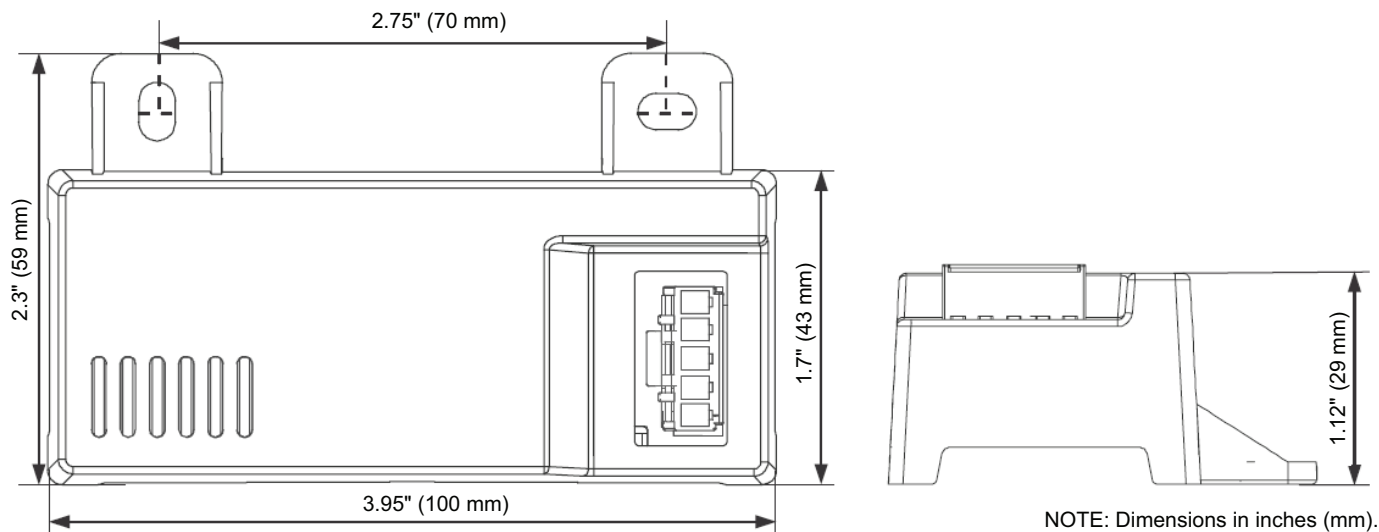
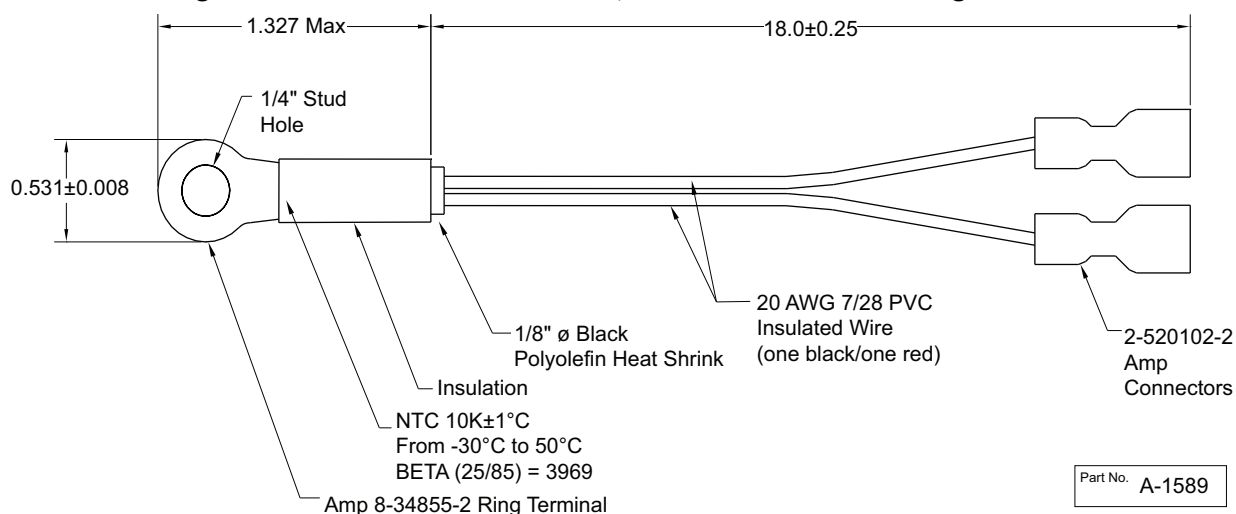
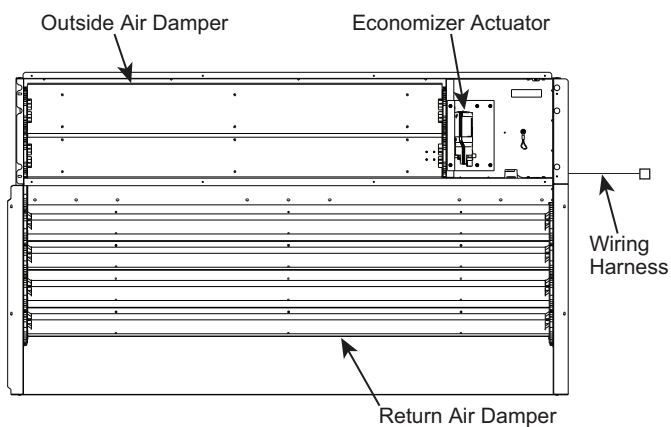

Fig. 72 – HH57LW001 Dimensional, Connection and Switching Information
Fig. 73 – HH79NZ039 Dry Bulb and Mixed Air Sensor Wiring
Fig. 74 – EconomizerONE System Component Locations
When using the HH57LW001 enthalpy sensor (see Fig. 72) for outside air changeover, the existing HH79NZ039 dry bulb sensor (see Fig. 73) must be removed. The enthalpy sensor will be mounted in the same location as the dry bulb sensor (see Fig. 74). When the enthalpy sensor's OA (Outside Air) temperature, enthalpy, and dew point are below their respective set points, outside air can be used for free cooling. When any of these are above their set point, free cooling will not be available. Enthalpy set points are configurable and create an enthalpy boundary according to the user's input. For additional details, see Fig. 75-76 and Table 33.
The optional enthalpy control sensor (P/N: HH57LW001) communicates with the POL224 economizer controller using the 5-wire harness, 48TC005213. The HH57LW001 sensor can be used as a single outside air enthalpy, a differential return enthalpy, or a differential return temperature sensor. Refer to the base unit control wiring diagrams found earlier in this book to wire the HH57LW001 enthalpy sensor for each option. See Fig. 72 and Table 35 on page 54 to locate the wiring terminals for each enthalpy control sensor.
Economizers are shipped standard with an HH79NZ039 outside air dry bulb sensor (refer to Fig. 73). System default setting (high temp limit) is 63°F (17°C) and has a range of 48°F to 80°F (9°C to 27°C). Sensor is factory installed on economizer.
If installing the optional HH57LW001 enthalpy sensor, the HH79NZ039 dry bulb outside air sensor must first be removed. Wire sensor to harness 48TC005213 and the (5) wires from the harness to the EconomizerONE harness in the return air chamber. Harness 48TC005213 has a 5-pin plug that connects directly to the HH57LW001 enthalpy sensor. Refer to the base unit control wiring diagrams earlier in this book for wiring connections. Refer to Fig. 72 and see Table 35.